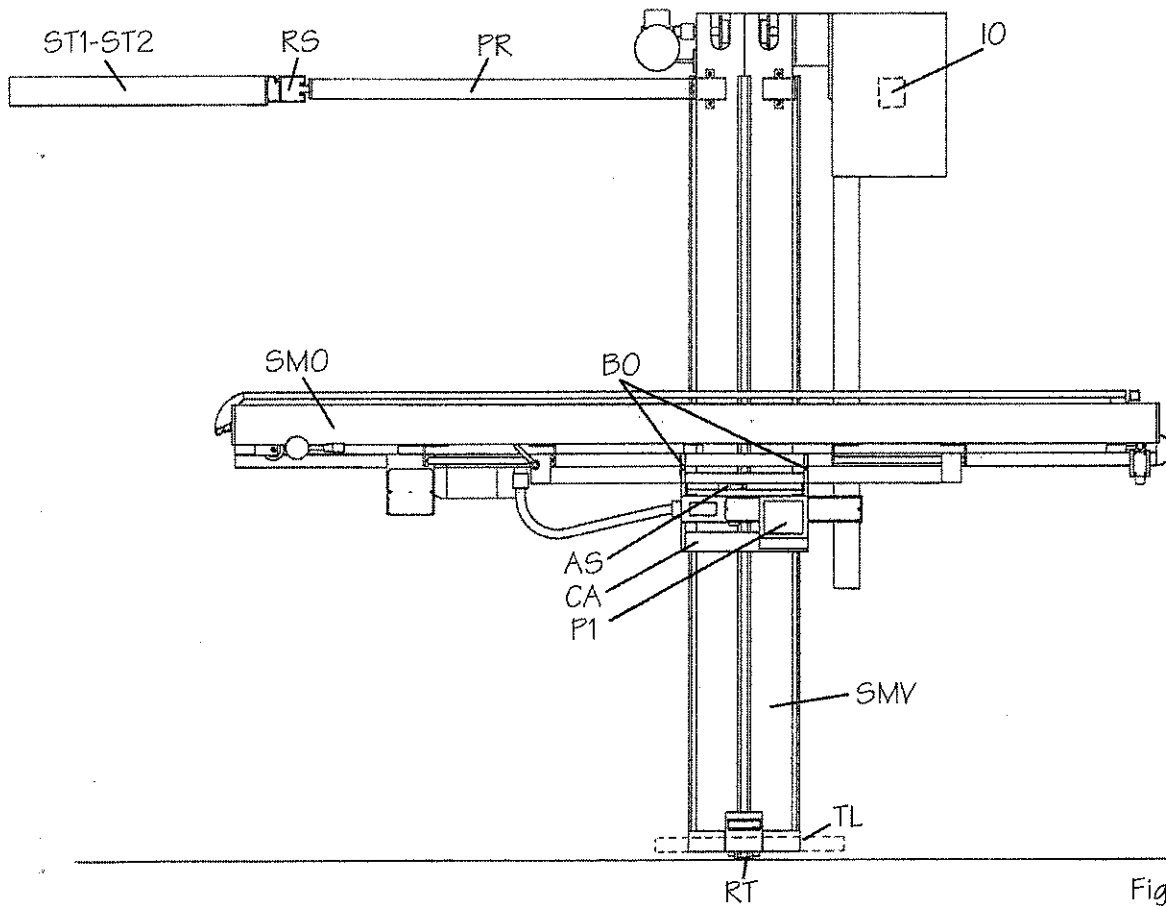

Fig. 4
- Positionate the column (SMV) on the floor, near the bottom rail (RT), on the side where is fixed the wood beam (TL). Lift the column in vertical position, insert the wheel onto the bottom rail, fix the extension (PR) with the two block in the back part of the column and block it in perpendicular position. Fig. 4
- 15) Prepare the horizontal structure (SMO) regulating the tubes at the centre of it. Put the horizontal structure inside the column carriage keeping the tubes at the centre of the structure (CA). Fix the brackets (BO). Now the tubes must have the same distance from each side. Fig 4